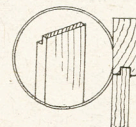

Fig. 7—Shouldered rail
The lengths of the various rails will be—(C) 23ins., (D) 22ins., (E) 18ins., and (F) 23ins. These sizes here given should not be adhered to strictly, but should be taken direct from the full sizes when being set out. The two rails (J) and the centre one (K) have their ends let into the cross rails (F) and (G), as shown in the two details in Fig. 7.